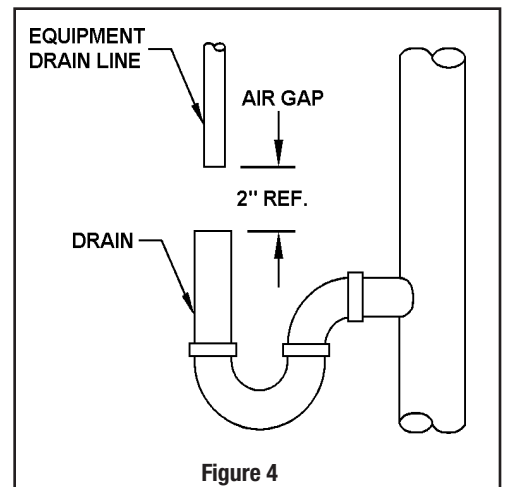

Figure 4
Step 8) Position the drain line over the drain and secure firmly. To prevent back-siphoning of sewer water, provide an air-gap of at least 2" or 2 pipe diameters between end of drain hose and drain (Figure 4). **DO NOT** raise drain line more than 10 ft. above floor.
- Step 14) Partially open the inlet knob on bypass valve (Figure 4). This will allow the unit to fill slowly from the bottom up, reducing air entrapment. Allow the unit to fill slowly, failure to do so could result in loss of resin to the drain. Once a steady stream of water, with no air sputtering, is flowing to the drain, the inlet and outlet bypass knobs can be fully opened (refer to Figure 5). Allow water to flow for 30 minutes.